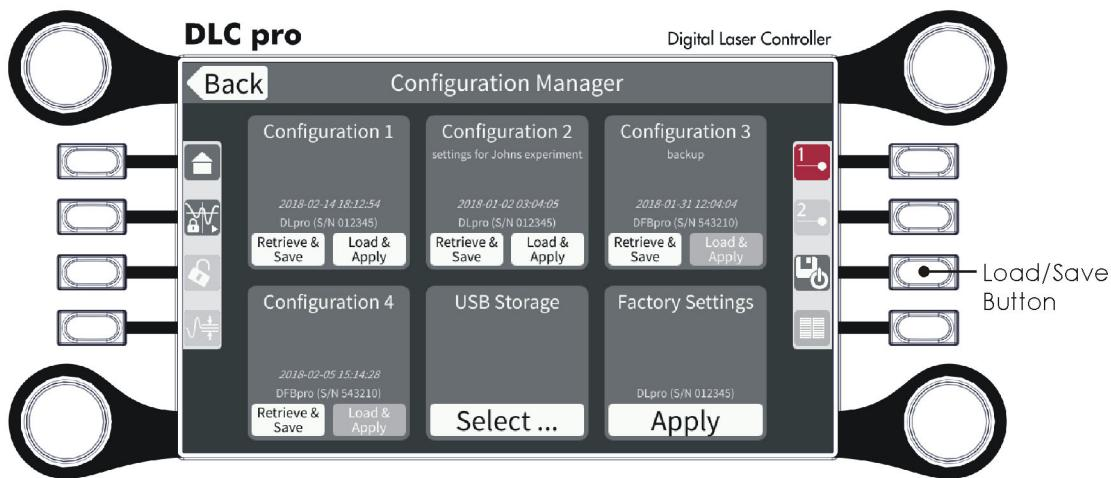

Figure 44 Configuration Manager
- Press the **Load/Save** button twice or tap the corresponding symbol twice to quickly store the most important settings of the parameter menu (please refer to section 5.11) to the flash memory of the DLC pro. Storing the settings is possible on any screen. Tap Back on the Configuration Manager screen (see Figure 44) to return to the previous screen.